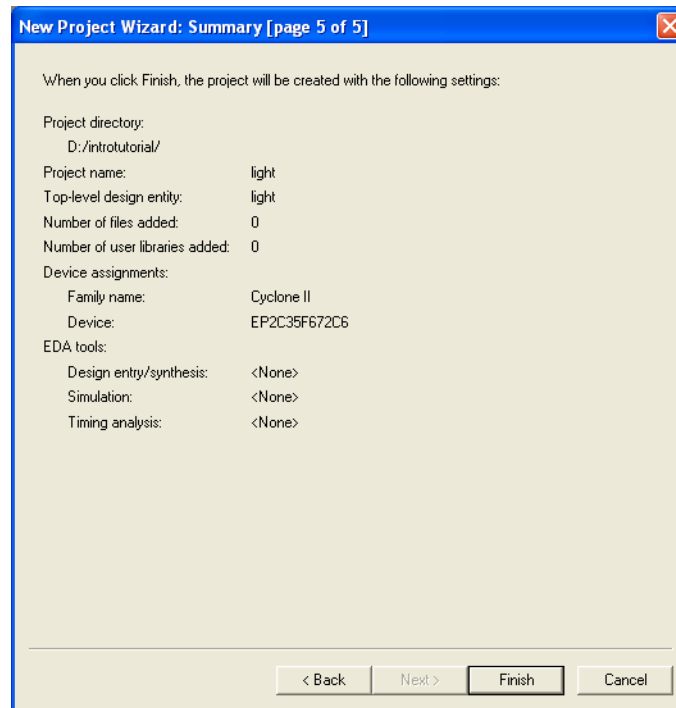
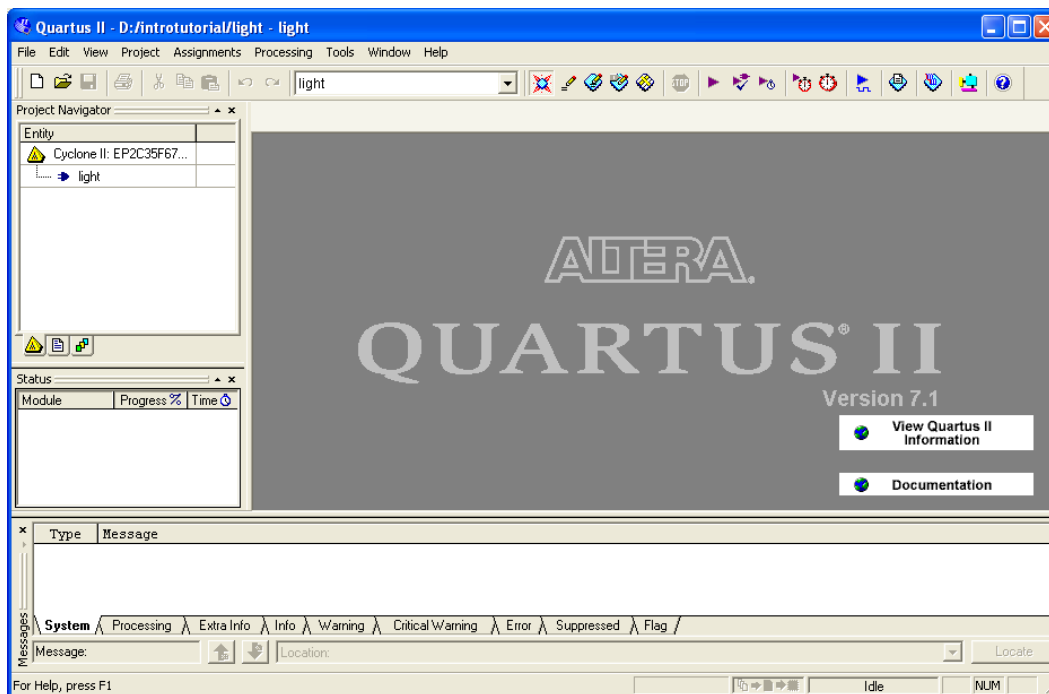

Figure 9. Summary of the project settings.
Figure 10. The Quartus II display for the created project.
6. A summary of the chosen settings appears in the screen shown in Figure 9. Press **Finish**, which returns to the main Quartus II window, but with *light* specified as the new project, in the display title bar, as indicated in Figure 10.